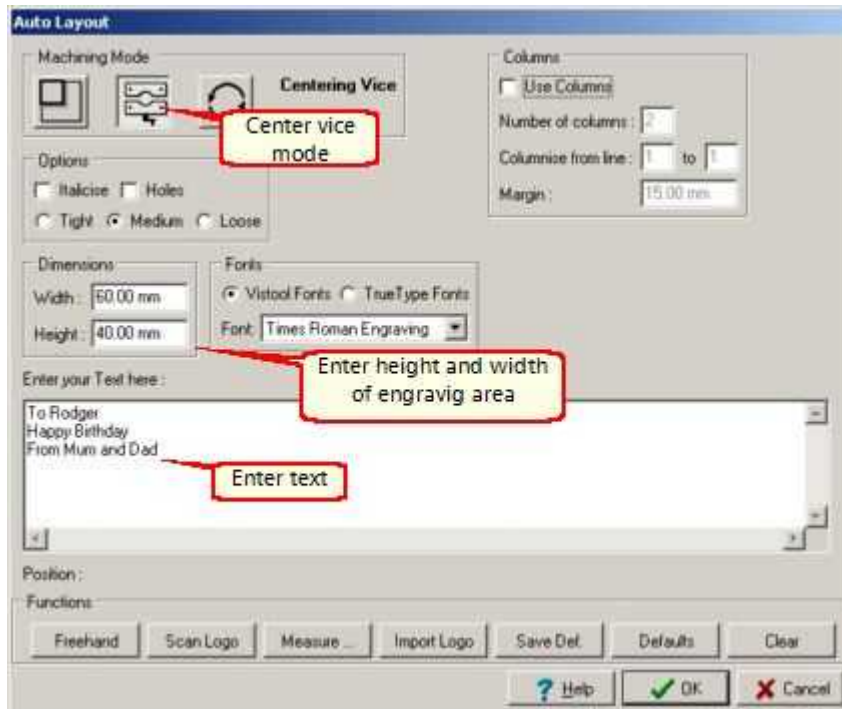

Figure 1
- 3 Then enter your engraving area in the "Height" and "Width" boxes, select your "Font" and "Text", leave all other settings at the default, see Figure 1.